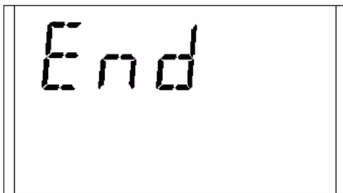

Fig. 12 Calibration completed
- After the gas value has stabilised, the alternating display stops. If the calibration is successful, END is displayed for approximately 2 seconds [→ Fig. 12].